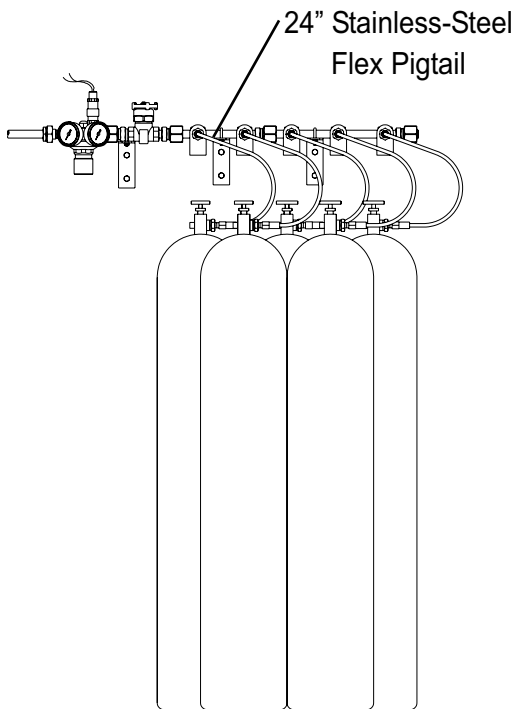

Figure 14
All high-pressure reserve header assemblies other than oxygen utilize 24" length flexible stainless-steel braided pigtails. Figure 14 illustrates a typical 5 cylinder high-pressure reserve header assembly utilizing flexible pigtails.
3. Position gas cylinders as shown in Figures 14 and 15. Secure each cylinder to wall or floor stand with chains or straps.